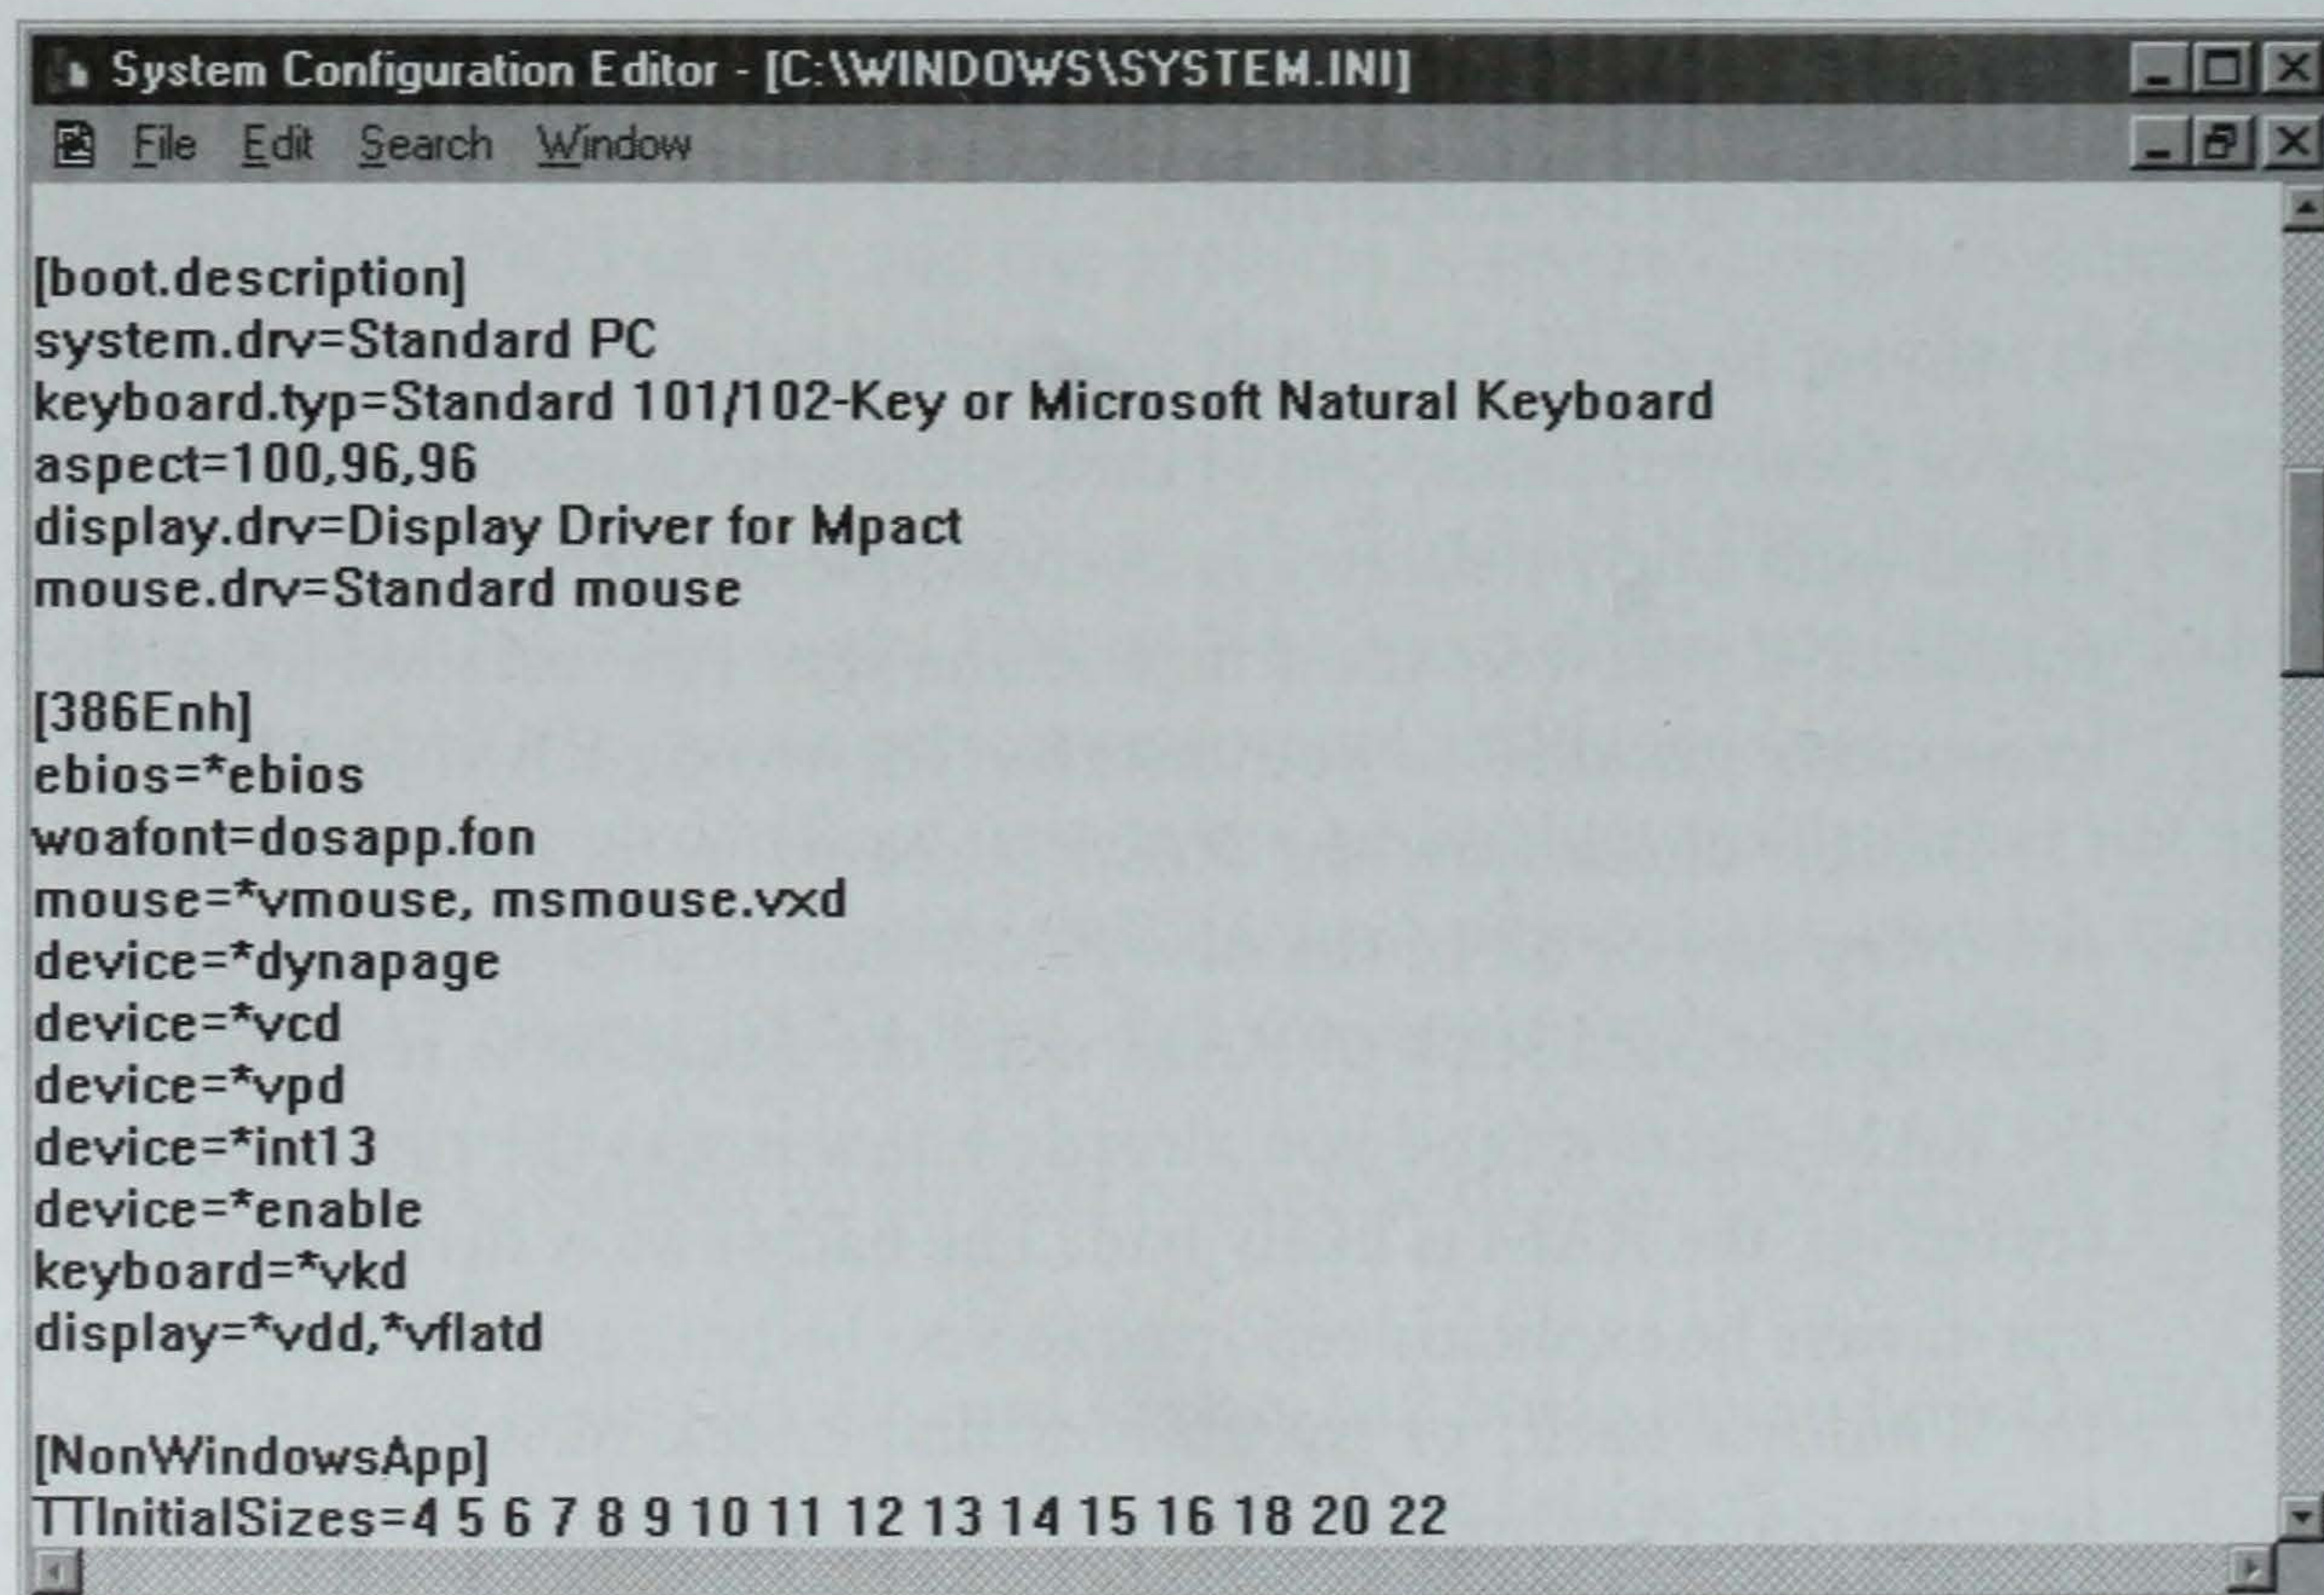

Figure 11.2 SYSTEM.INI.
2. Open SYSTEM.INI (see Figure 11.2).